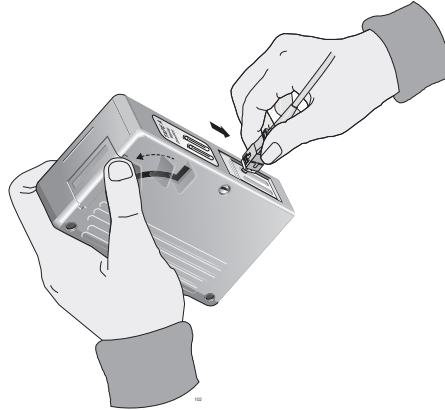

Figure 28. Rubbing the Ferrule Tip on the Cleaning Surface
1. With one hand, hold the cartridge cleaner and push the lever on the cleaning cartridge in the direction of the arrow to expose the cleaning surface, as shown in Figure 28 on page 59.
2. Place the ferrule tip on the exposed cleaning surface and rub the ferrule in a downward direction, as shown in Figure 28 on page 59.